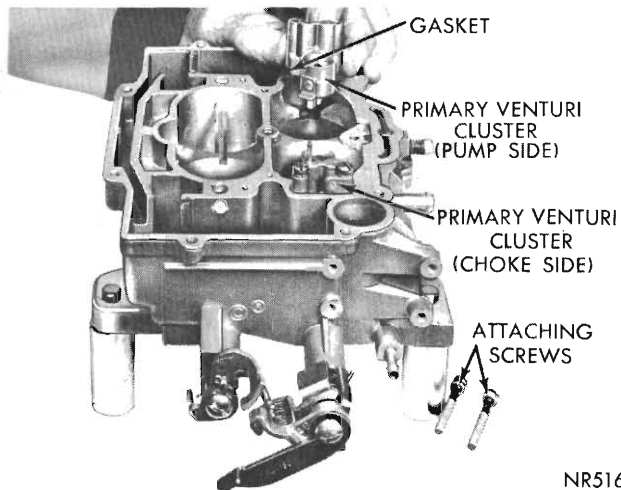

Fig. 5—Removing or Installing Primary Venturi Cluster
(4) Remove screws that attach primary venturi (choke and pump side) to main body. Lift venturi straight up and away from main body (Fig. 5). Discard gaskets.
(1) Slide primary throttle valve (or valves) into their respective bores, install new screws, but do not tighten. Be sure idle speed adjusting screw is backed out. Hold valves in place with fingers. (Fingers pressing on high side of valves.)
(2) Tap valves lightly in this position, tighten screws securely. Stake screws by squeezing with pliers.
(3) Install idle mixture screws and springs in throttle body. (The tapered portion must be straight and smooth. If tapered portion is grooved or ridged, a new idle mixture screw should be installed to ensure having correct idle mixture control.) **DO NOT USE A SCREWDRIVER.** Turn screws lightly against their seats with fingers. Back off two turns. Turn clockwise (leaner) and anti-clockwise (richer).
(4) Place new primary venturi gaskets in position, then install the primary venturi (pump and choke side) by lowering straight down on gaskets (Fig. 5). Install attaching screws and tighten securely.